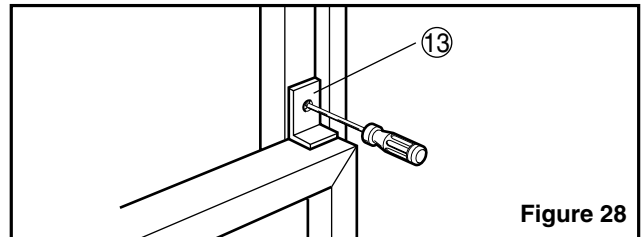

Figure 28
12. Attach the window Locking Bracket ⑬ with a type C screw. (See Fig. 28)